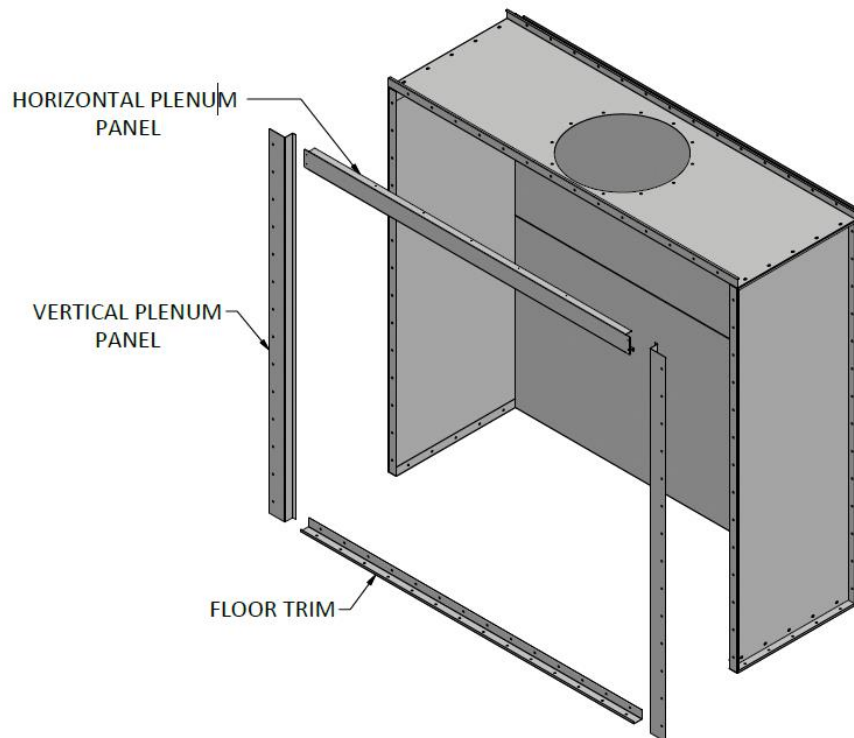

Figure 4 – Assembly of Floor Trim and Plenum Panels
- Install the horizontal plenum panel between the vertical plenum panels as shown in figure 4. Secure each side of the horizontal plenum panel using two #8-18 X 1/2 self-drilling screws. The horizontal plenum panel should also be fastened to the roof panel using self-drilling screws every 12".